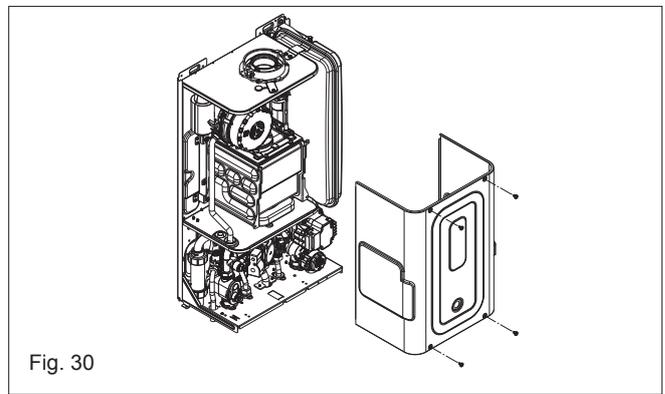

Fig. 30
7.5 FRONT COVER REMOVAL (FIG. 30)